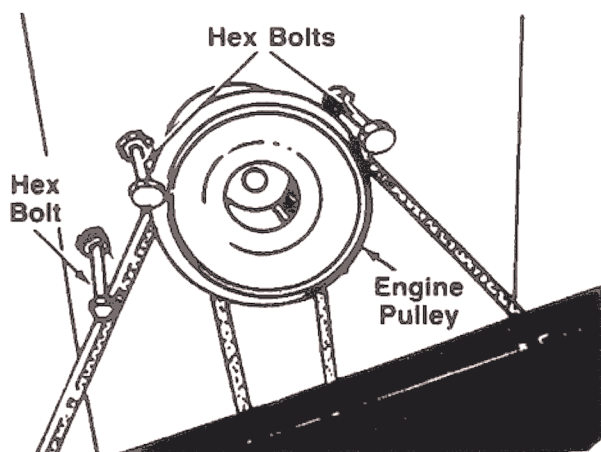

FIGURE 18.
NOTE: Figures 18 and 22 through 24 are shown with the unit tipped up for clarity. It is not necessary to tip the unit to remove the belts.
2. Remove the hex bolts (belt keepers) from the engine pulley belt guard. See figure 18.
NOTE: When reassembling, make certain hex bolts are assembled in the same locations from which they were removed. See figure 18.
3. Remove the three hex bolts (belt keepers) from the engine pulley belt guard. Refer to figure 18.
NOTE: Make certain hex bolts are reassembled as shown in figure 18.